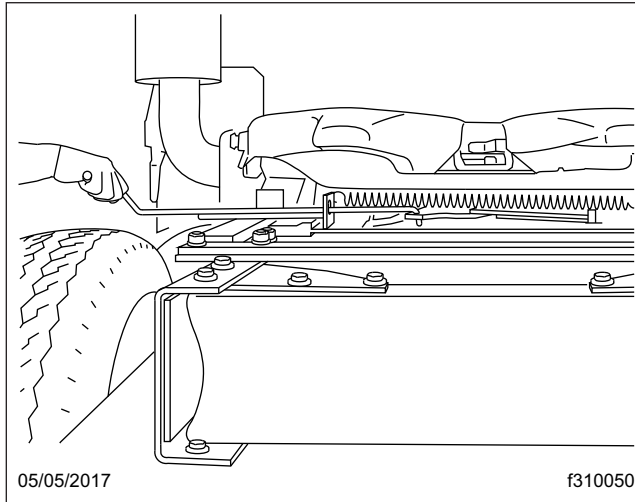

Fig. 18.13, Sliding Fifth Wheel Manual Release, Fontaine
- 2.1 **Fontaine:** Lift the slide release pull handle to disengage it from the guide plate. Then, pull out the handle until it is in the unlocked position and can be positioned against the guide plate to hold it out. The handle will stay in the unlocked position until it is manually disengaged from the guide plate. See Fig. 18.13.